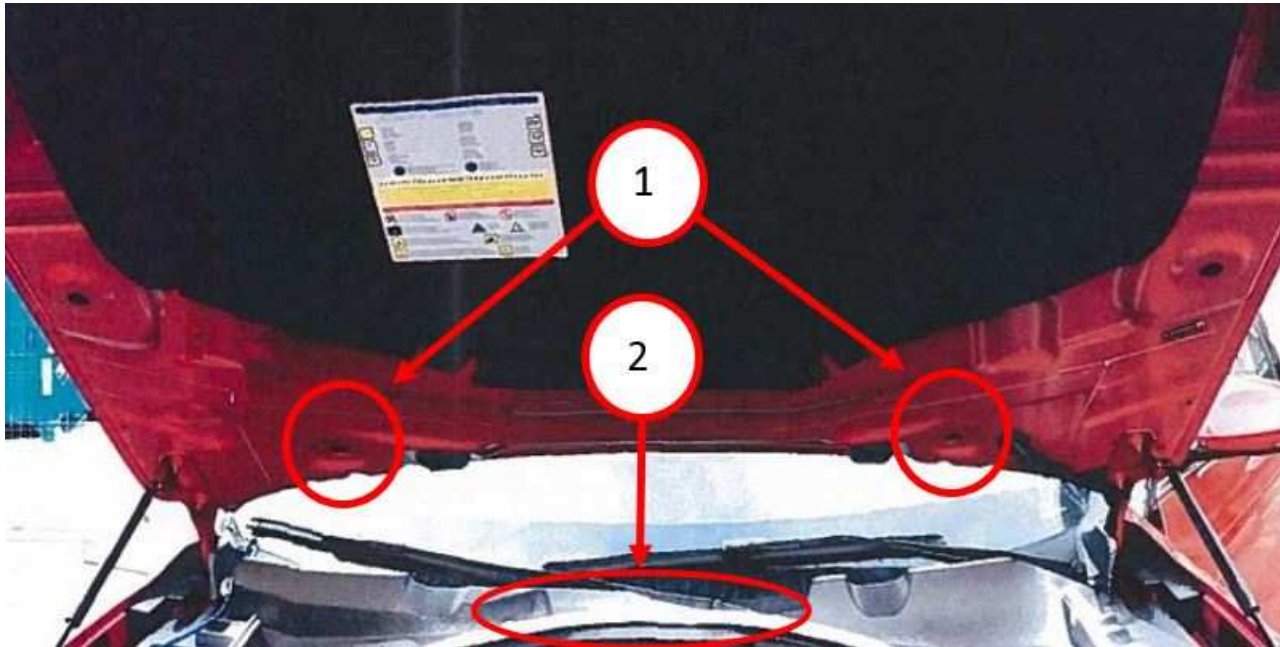

Fig. 1
1. Open hood and locate the cowl seal gasket (Fig. 1) . Replace the gasket with the revised part listed in Parts Required. Verify seal makes contact to hood.